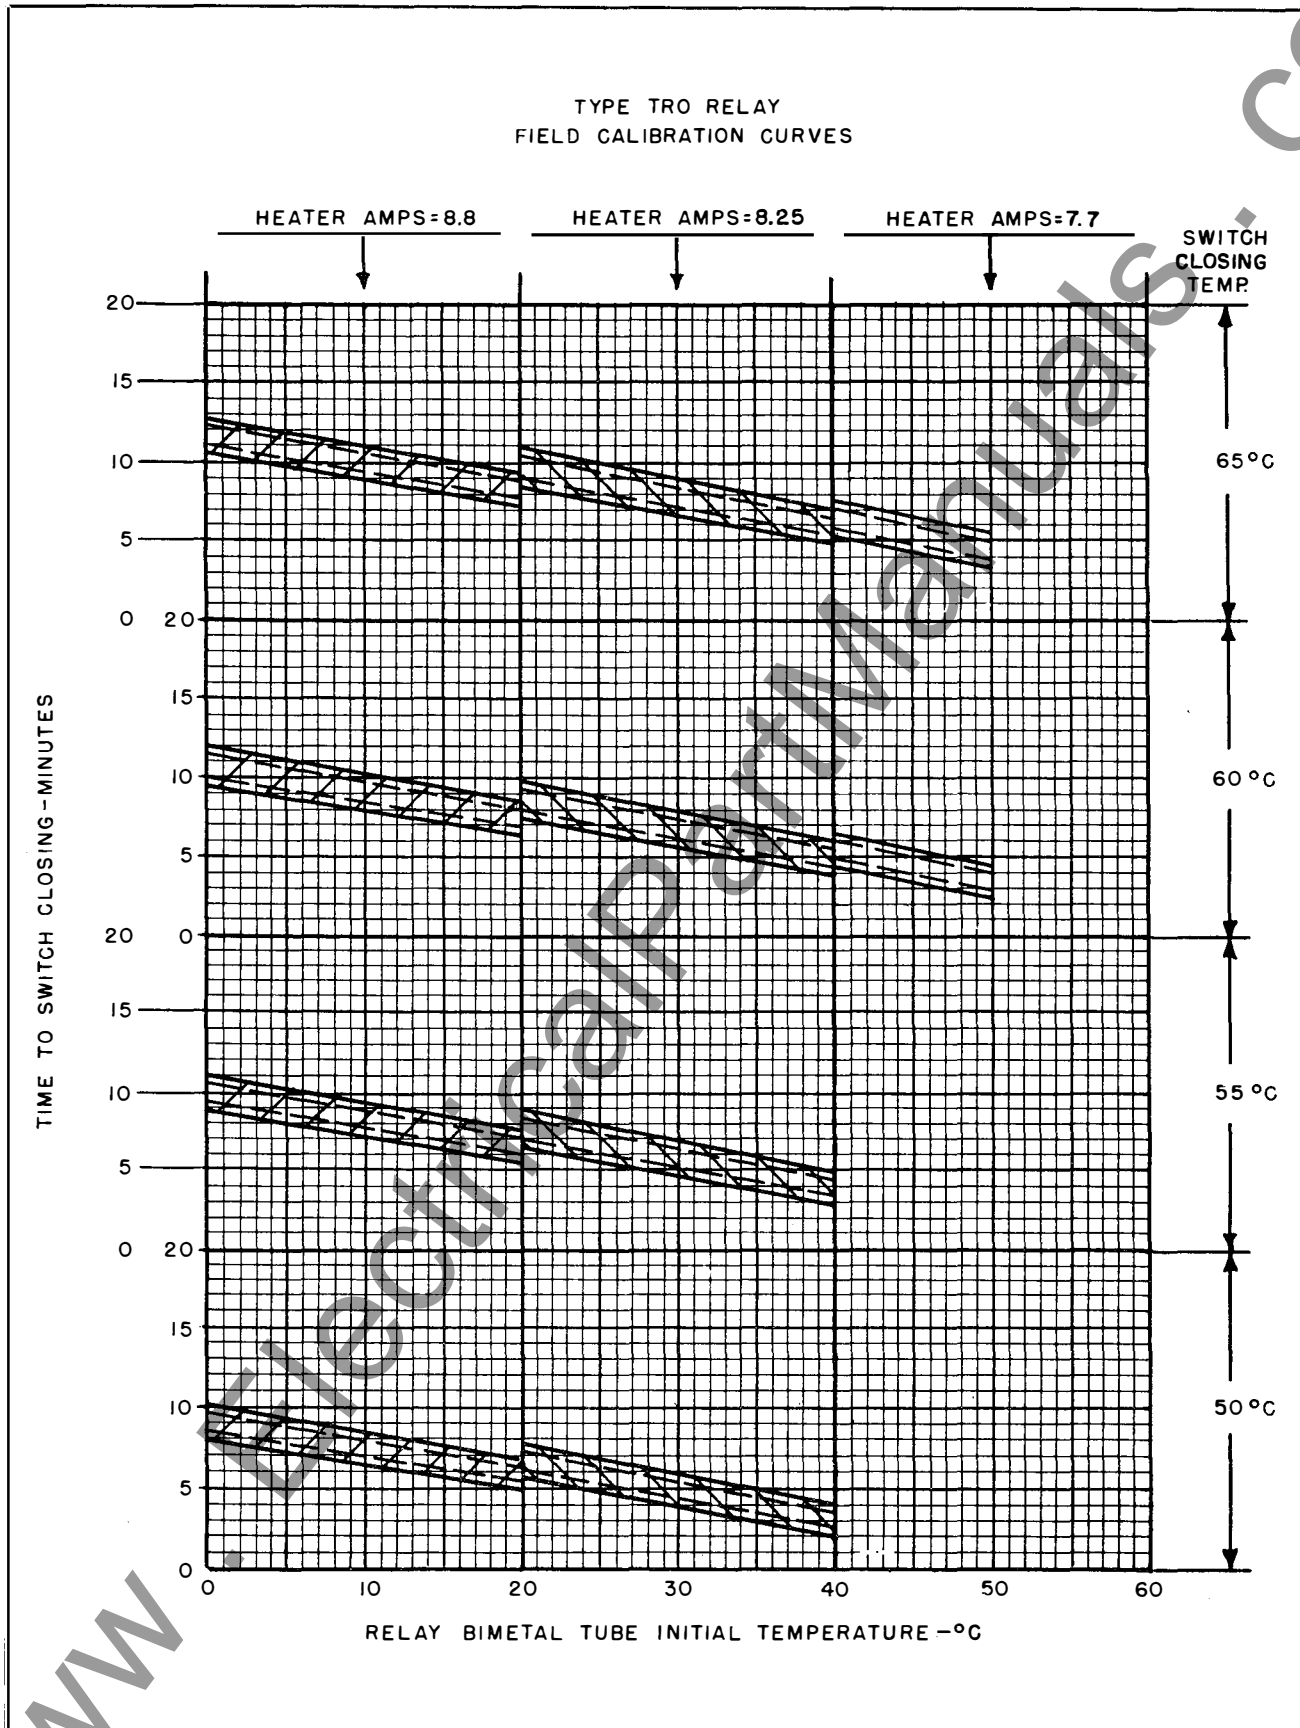

FIG. 9. TRO Relay Calibration Curve Showing Switch Closing Temperatures from 50 to 65 Degrees C.
1. Observe the temperature of the oil to approximate the bimetal tube temperature and determine the test current from the calibration data shown in Figs. 9, 10, and 11. It is desirable to pre-set the current (heater coil by-passed) so that a minimum amount of time will be lost in getting the exact current setting. Continuous adjustment of the current will be required throughout the test as the increase in resistance of the heater coil will tend to reduce the current.
- (1) Starts the fans.
- (2) Operates the signal or starts 2nd fan bank.
- (3) Closes the trip contact.
4. When the calibration run has been completed, the observed closing times should be compared with the data on the curves in Figs. 9, 10 and 11.